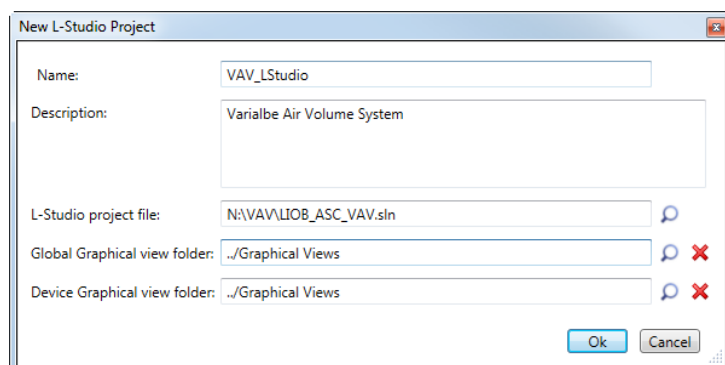

Figure 239: Add L-Studio Project
3. In the **New L-Studio Project** dialog (see Figure 239) enter the following data: